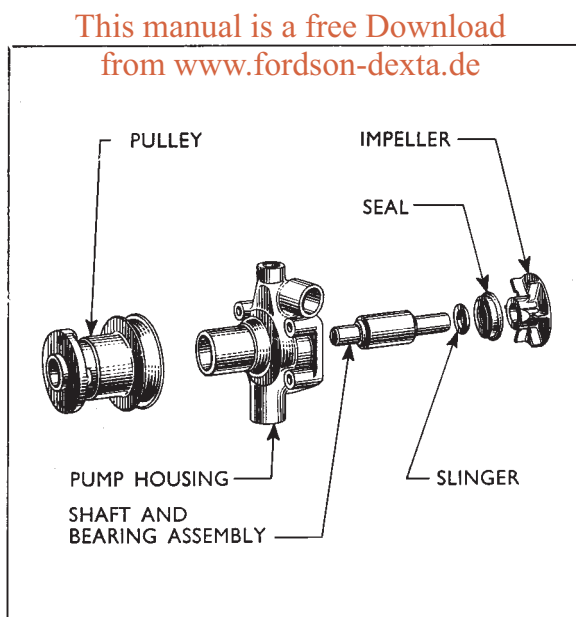

**Fig. 37
1. Remove the pump pulley from the shaft using the split adaptors (T.7000-17a) as shown on Fig. 37. Screw adaptor (T.7000-17b) onto the centre screw of the main tool, so that it pushes against the centre of the pump shaft.